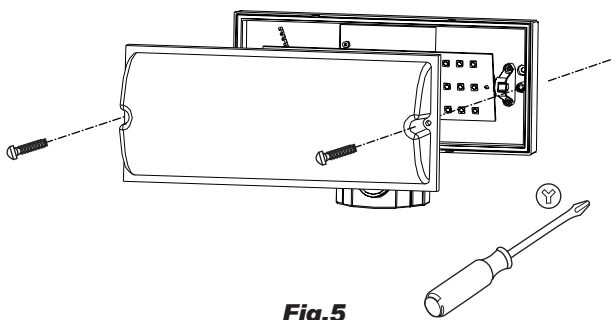

Fig.5
- Step5 Fasten the cover to the lamp base which has been installed on the wall. (Fig.5)